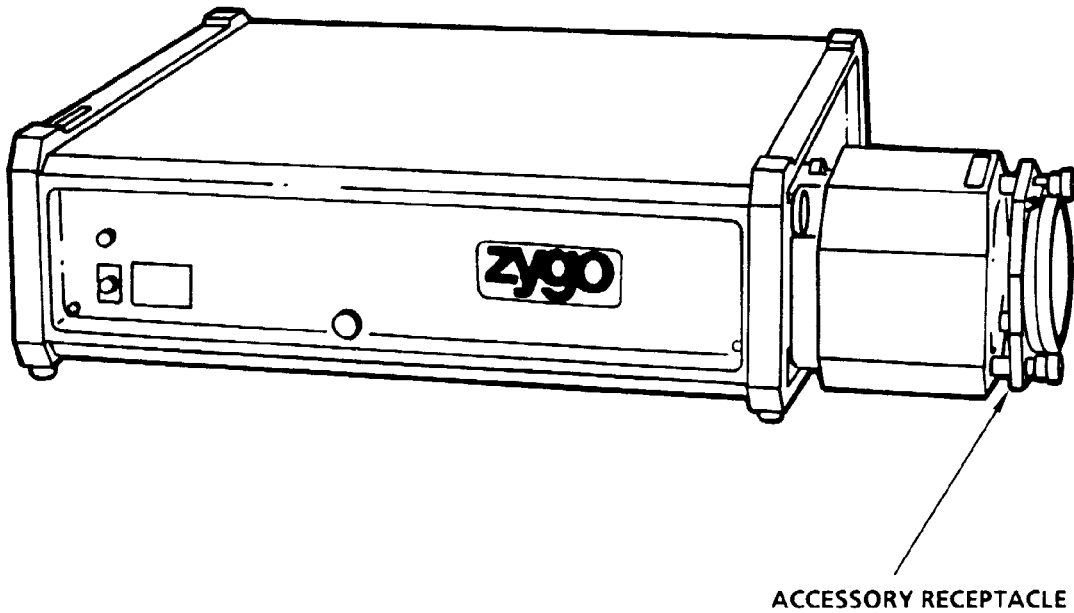
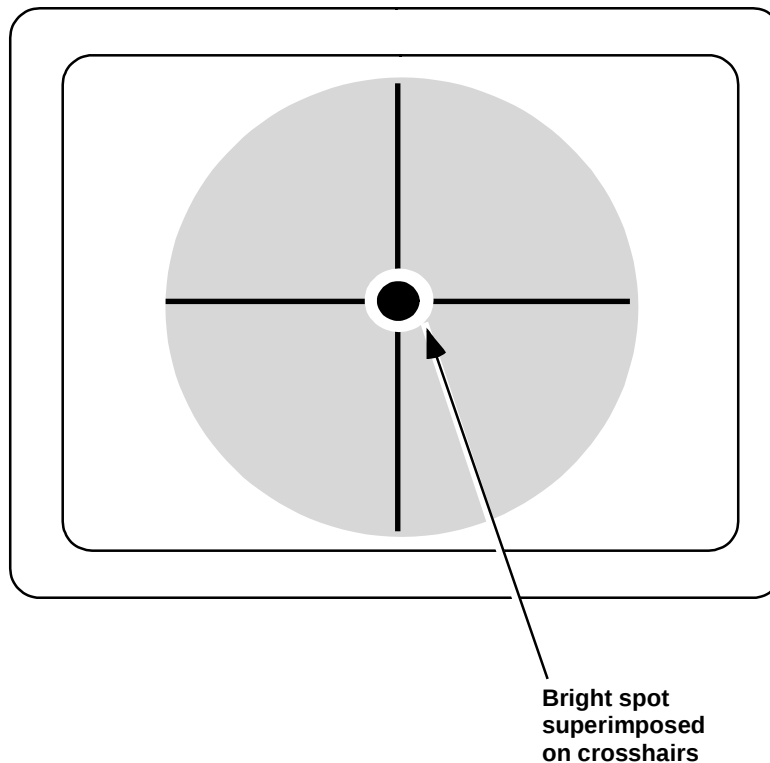

Figure 5-4 Mainframe Accessory Receptacle
Figure 5-5 Alignment Dot
Refer to Figure 5-4 for the location of the Mark III Mainframe Accessory Receptacle.
2. The alignment target (crosshairs) will appear on the monitor. In addition to the crosshairs, there will be two bright spots displayed. The brighter of the spots represents the reflection off the outermost surface of the transmission element. Turn the two tip and tilt knobs on the Accessory Receptacle (Figure 5-4) until the brighter spot is superimposed on the crosshairs center. Refer to Figure 5-5.